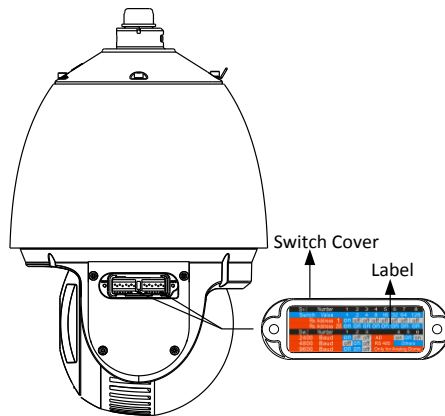
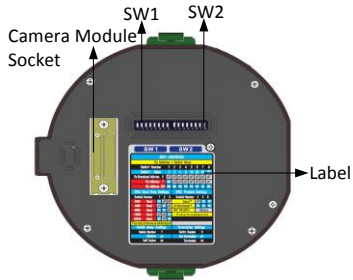
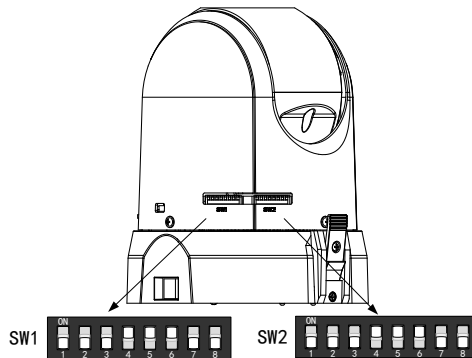

Figure 1-2 DIP Switch of IR Speed Dome
Figure 1-3 DIP Switches of High Speed Dome
Figure 1-4 DIP Switches of Medium Speed Dome
1. Loosen the screws on the switch cover which is on the right side of the speed dome as shown in the Figure 1-2.
DIP switches SW1 and SW2 are for setting the speed dome address, baudrate, protocol, etc., with value ON=1 and OFF=0(binary system), as shown in Figure 1-2, Figure 1-3 or Figure 1-4. Please refer to *Section 1.2.1 and 1.2.2* for detailed settings.